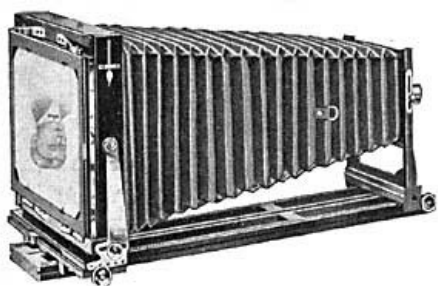

FIG. 82.—A camera.
**122. The Camera.** A camera (Fig. 82) is a light-tight box containing a movable convex lens at one end and a screen at the opposite end. Light from the object to be photographed passes through the lens, falls upon the screen, and forms an image there. If we substitute for the ordinary screen a plate or film coated with silver chloride or any other silver salt, the light which falls upon the sensitive plate and forms an image there will change the silver chloride and produce a hidden image. If the plate is then removed from the camera in the dark, and is treated as described in the preceding Section, the image becomes visible and permanent. In practice some gelatin is mixed with the silver salt, and the mixture is then poured over